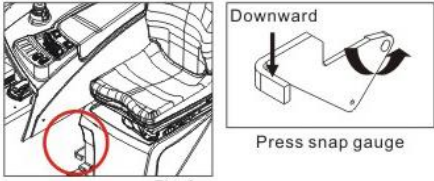

Fig. 2
4. Press the snap gauge down (refer to figure 2) and operate reaching forward and backward thumb switch to make the mast reach forward. The battery is moved out when the mast is reaching forward.